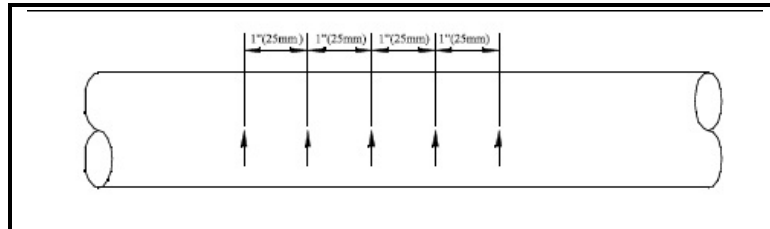

Figure 13: Measuring Thickness Along the Pipe Axis
2. Clear rust or loose paint and measure the wall thickness at five points along the pipe axis at 25 mm (1-in.) intervals using an ultrasonic thickness gauge, as shown in Figure 13 below. Check each point three times and record the mean values. If the maximum variation between the five points exceeds 0.25 mm (0.010 in.), find another location.